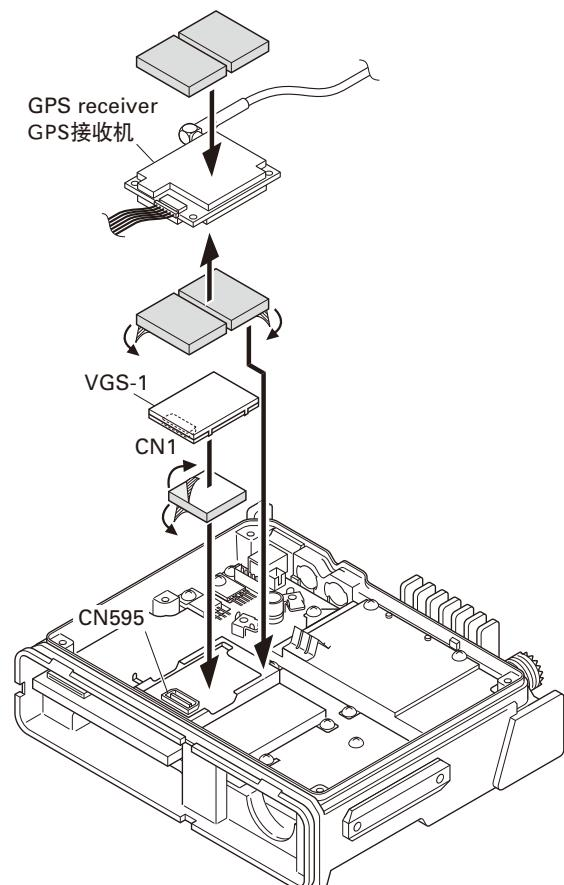

Fig. 6-5 / 图 6-5
3. Attach a cushion to the bottom of the VGS-1 as shown in Figure 6-5.
3. 如图 6-5 所示, 将缓冲垫安装到 VGS-1 底部。